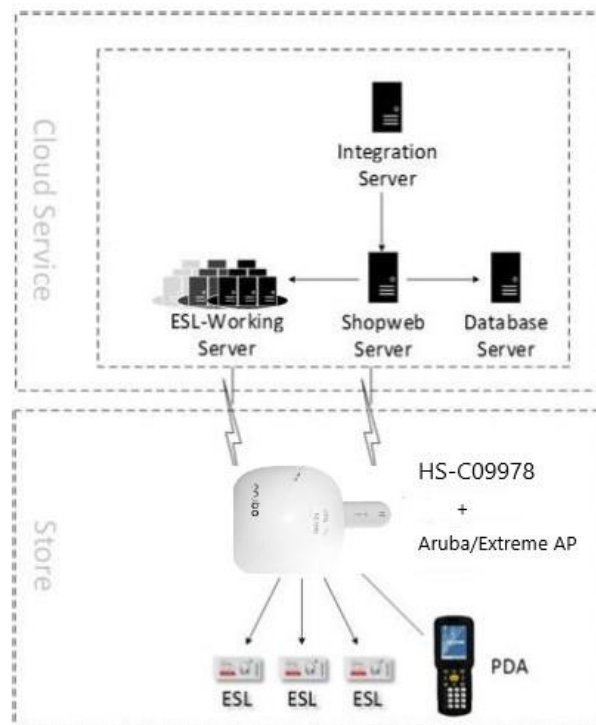

Figure 1-5 ESL system architecture
ESL controller is a key part of Hanshow ESL system. Specifically, it is as wireless access point between ESL-Working and ESLs. ESL controller system includes ShopWeb, ESL-Working, ESL controller (AP), Electronic Shelves Label (ESL) and Hand-hold Terminal (PDA). The system architecture is as shown in Figure 1-5.